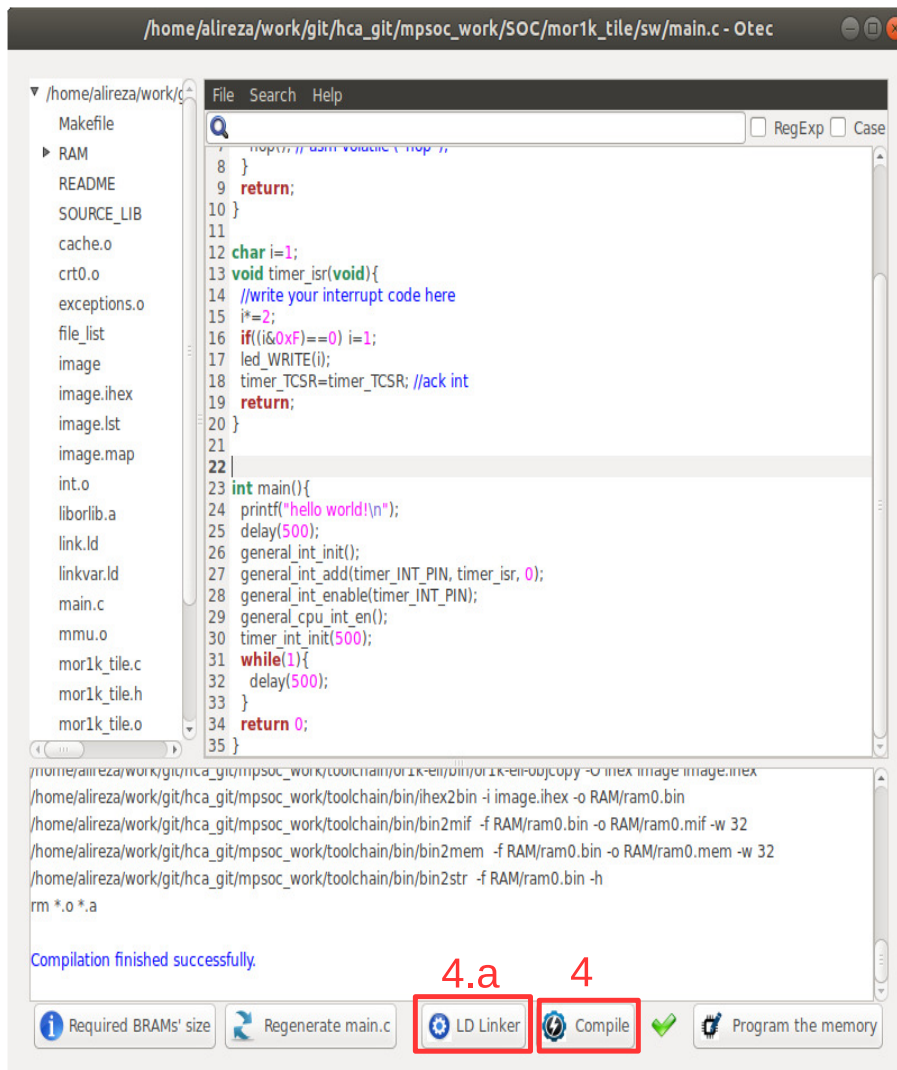

Figure 5.11: Compile the software code.
4. Now press the  Compile button. This will compile the C code using Mor1kx GNU toolchain. If everything runs ok, you must see "compilation finished successfully" message as shown in Figure 5.11. Otherwise, check the error message to fix your code and press the compile button again. If every thing runs successfully you must have ram0.bin, ram0.hex, and ram0.mif files in your sw/RAM directory.